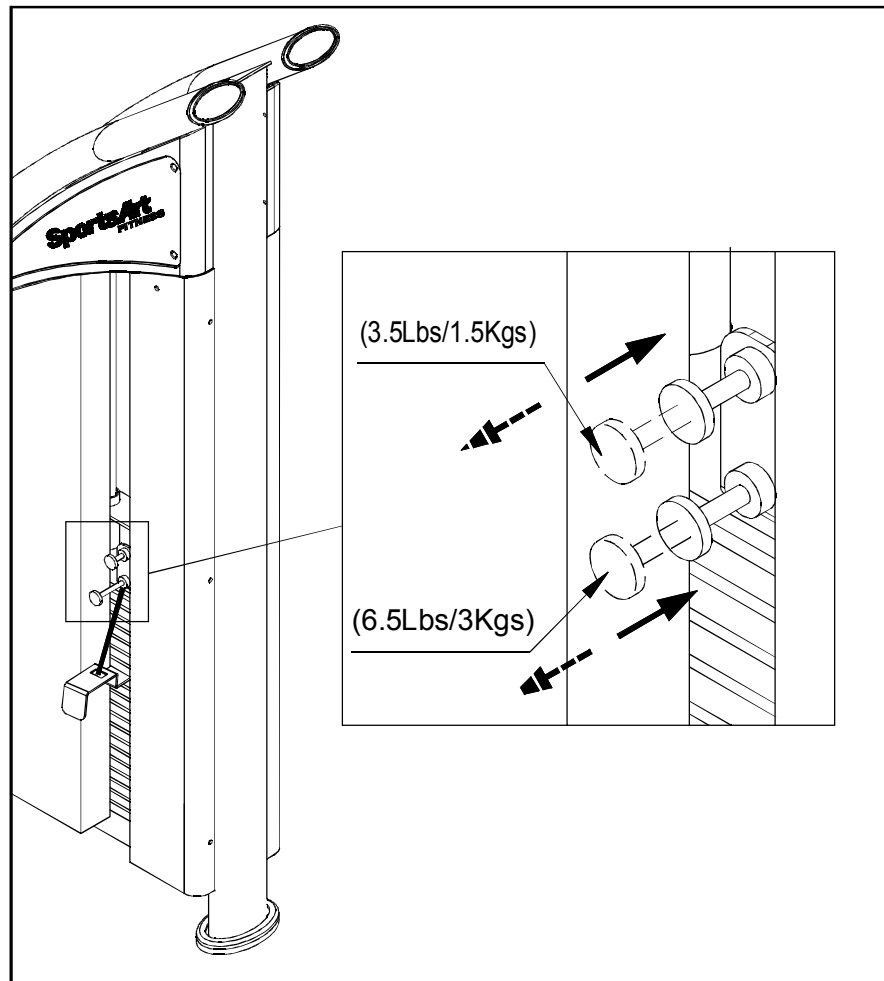

Fig.7
2. Pull the pin to release the weight. (See fig.7)